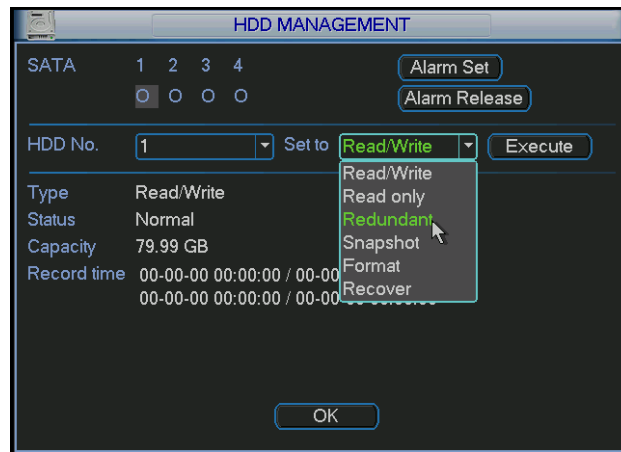

Figure 4-13
In the main menu, from Advanced to HDD management, you can set one or more disk(s) as redundant. You can select from the dropdown list. See Figure 4-13. System auto overwrites old files once hard disk is full.
- Set redundant disk(s) as read-only disk or read-write disk (Main menu->Advanced->HDD management). See Figure 4-13. System needs to reboot to get setup activated. Now you can search or playback file in redundant disk.